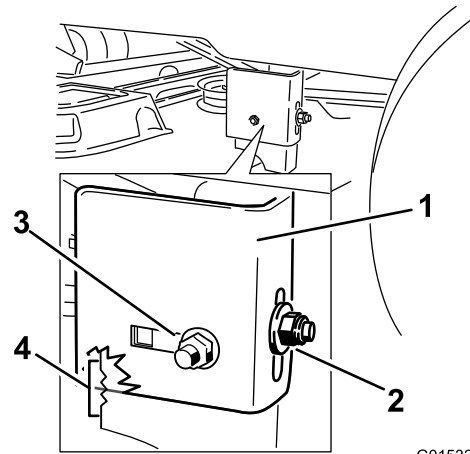
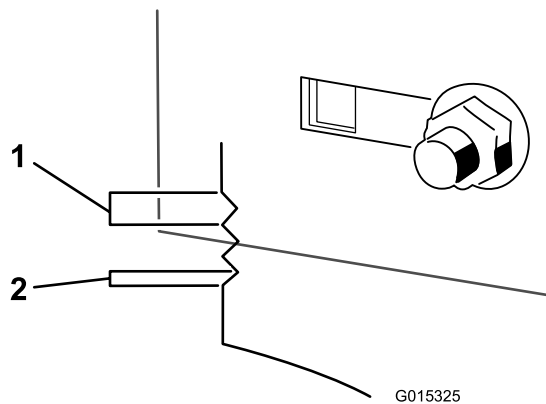

Figure 62
Figure 63
- Loosen the rear locking nut on the hanger bracket (Figure 62).
- Loosen the side locking nut on the hanger bracket just enough to allow the hanger to be adjusted (Figure 62). Use the notches on the welded bracket to measure the amount of adjustment. Each notch surface is equivalent to 0.25 inch, while a single side is 0.125 inch (Figure 63). Adjust the height of the mower deck to the desired height.
11. Stop the deck at the adjusted position and tighten the side locking nut on the hanger bracket to hold the new position (Figure 62). Tighten the rear locking nut on the hanger bracket.